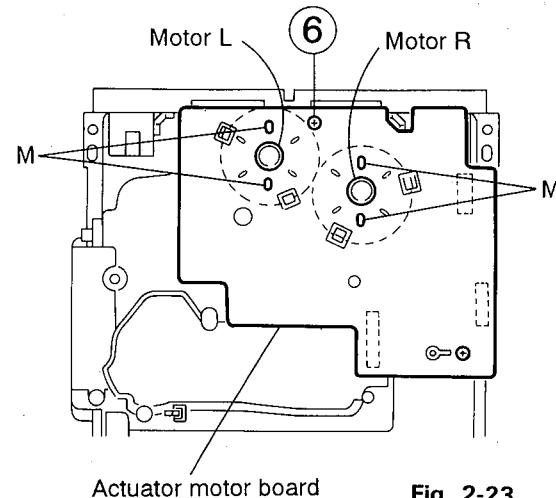

Fig. 2-23
(See Figs. 2-23 and 2-24)
- Absorb the four soldered positions (M) of the right and left motors with a soldering absorber (See Fig. 2-23).